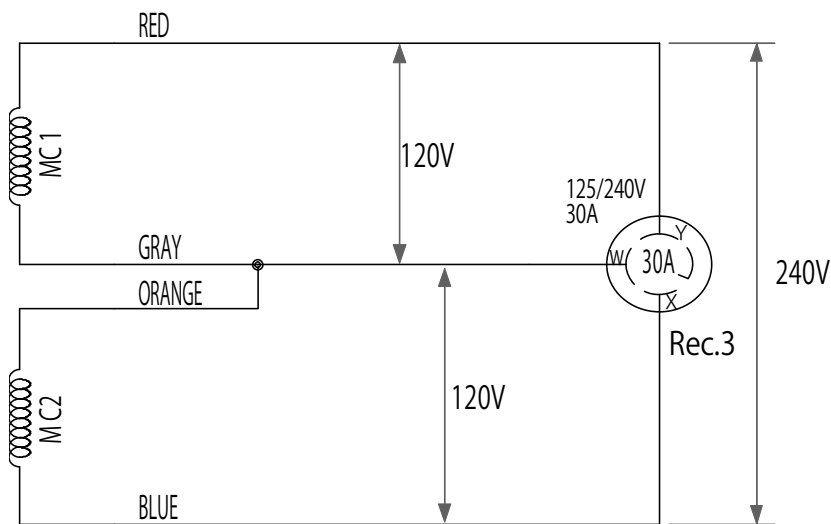

Figure 2-6: Voltage Selector Full Power Switch Set for Dual-Voltage Output
- (2) Voltage Fluctuations Under Load (refer to Figure 2-6)
- (e) Refer to Figure 2-6 for a simplified diagram of the circuit. The two main coils are shown connected in series. In this example, power is simultaneously available from the receptacles for both voltages. Higher voltage receptacle, Rec. 3, has power available up to rated power, however, Rec. 1 and Rec. 2 for the lower voltage can output only up to the rated power of each receptacle.